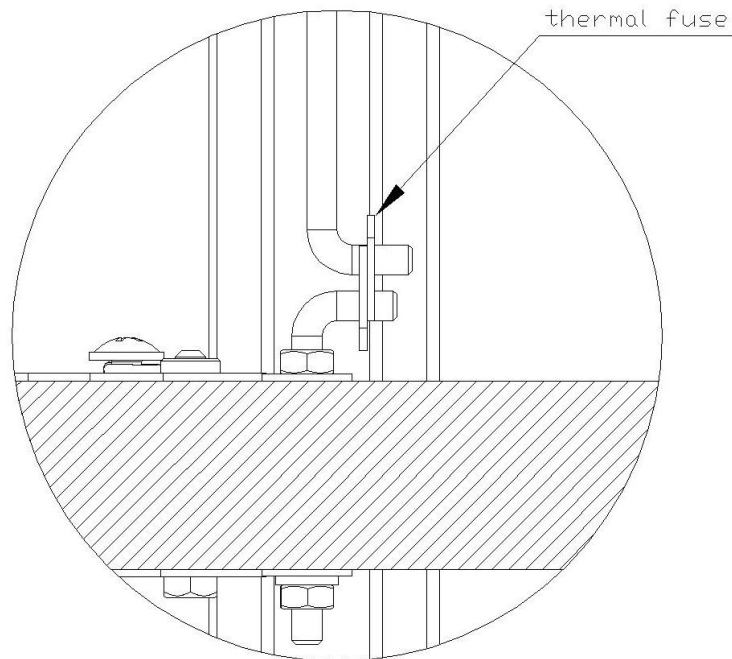

Figure 6. Thermal fuse installation method
- After the mortar has dried (about 48 hours), remove the supports or suspension, check the fire damper correct operation and leave it in open position (installing in KTM-O damper thermal fuse as shown on the fig. 6).
- After the mortar has dried (about 48 hours), remove the supports or suspensions, check the fire damper correct operation and leave it in open position (installing in KTM-O damper thermal fuse as shown on the fig. 6).
- After mounting the collar, remove the supports or suspension, check the fire damper correct operation and leave it in open position (installing in KTM-O-S damper thermal fuse as shown on the fig. 6).
- After mounting the collar, remove the supports or suspension, check the fire damper correct operation and leave it in open position (installing in KTM-O damper thermal fuse as shown on the fig. 6).